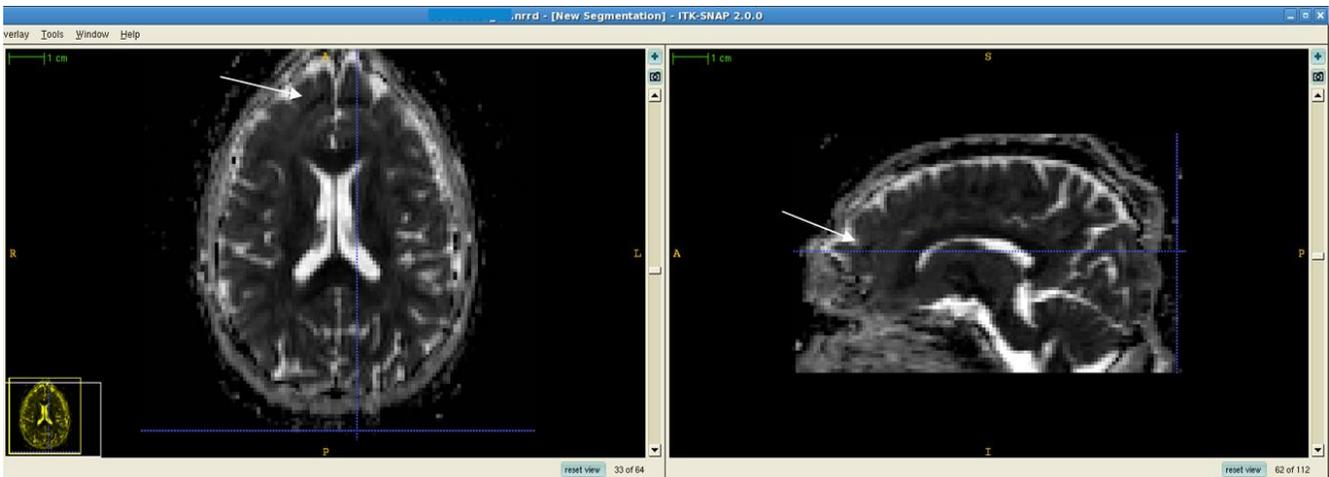

Figure 4.7 Pre-frontal anomaly in RD ~.nrrd file, axial and sagittal views
- Figure 4.7 demonstrates a pre-frontal anomaly in ~50% of a dataset from a Philips protocol. It is mostly visible in axial views, but is occasionally visible in the sagittal view as well.
This is the same case and anomaly as in Figure 4.7, but viewed in the FA color file. The red arc showing in the pre-frontal area is not a result of anatomy and may be examined in Slicer for further evidence in determining whether the anomaly is anatomical or acquisition-based.